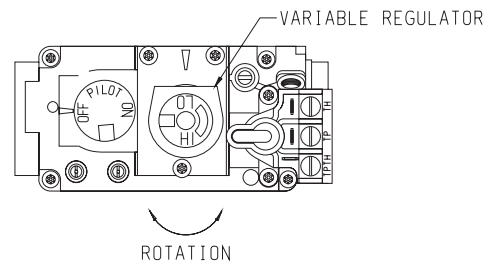

Figure 9
**NOTICE:** The gas control valve allows you to increase or decrease the height of the main burner flame. The control valve has a pressure regulator with a knob as shown in Figure 9. Rotate the knob clockwise to "HI" to increase the flame height and counterclockwise to "LO" to decrease the flame height.